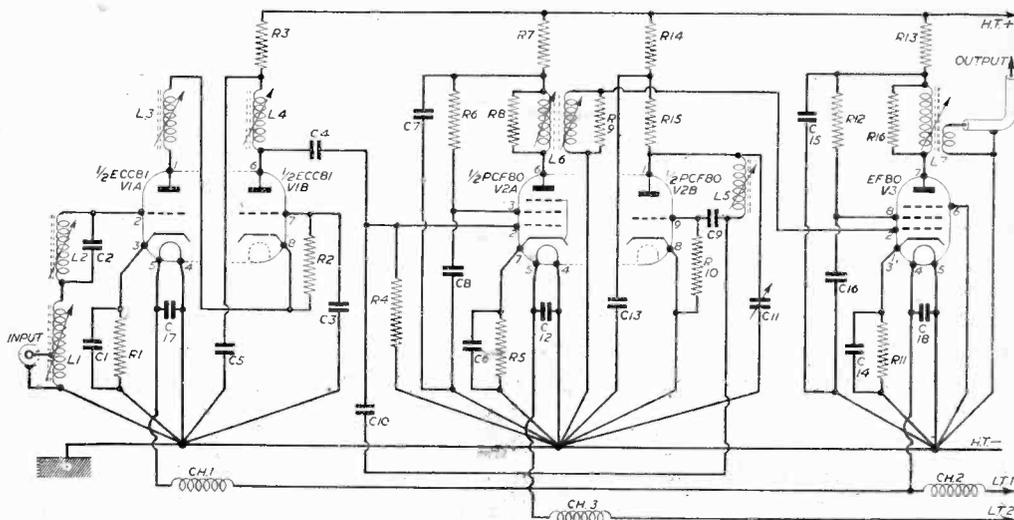

Fig. 9.—Theoretical circuit of the fringe model converter.
The theoretical circuit is shown in Fig. 9. It will be seen that the first stage is similar to the previous model, an ECC81 or 12AT7 being used.
**ADDITIONAL COMPONENTS FOR FIG. 9.**